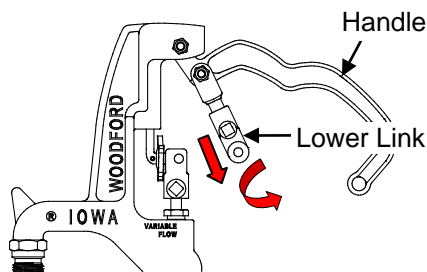

Fig 2
- Lift the handle and disengage the Clevis Assembly. Fig 2
- Turn out the Lower Link (counterclockwise) to lengthen the Clevis Assembly. Fig 2